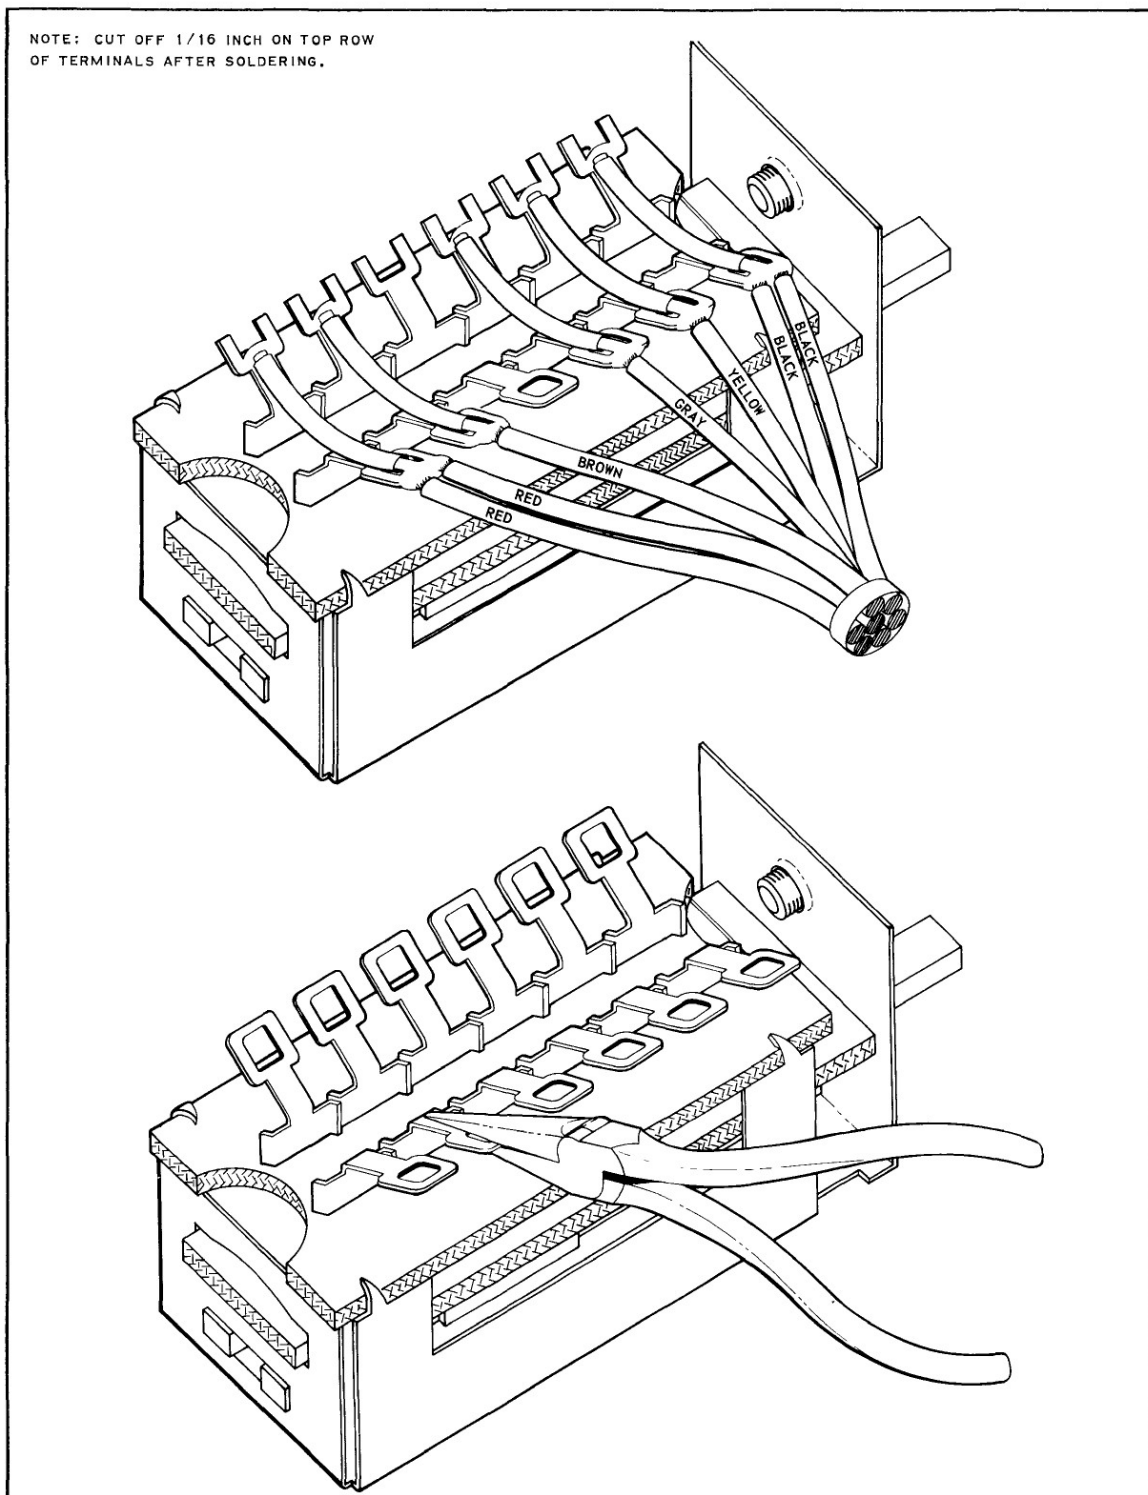

Figure 12-3. Replacement of AltiMatic III Roll Engage Switch
5. Make sure that all the wires on the switch are the same color as those shown in Figure 12-3. If not, identify any wires which are different. Remove all wires from the switch.
6. It will be necessary to bend the terminals to allow sufficient clearance for the switch when it is installed in the Console. When bending the terminals, be careful not to bend them an excessive amount. (Refer to Figure 12-3 for proper bending of the terminals.) Note the positioning of the pliers on the terminals.
7. Orient the switch so the shaft is extended to the right and the terminals are visible. (Refer to Figure 12-3.)
11. Make sure all connections are soldered. On the top row cut off approximately 1/16 inch from the ends of all terminals. (Refer to Figure 12-3.)